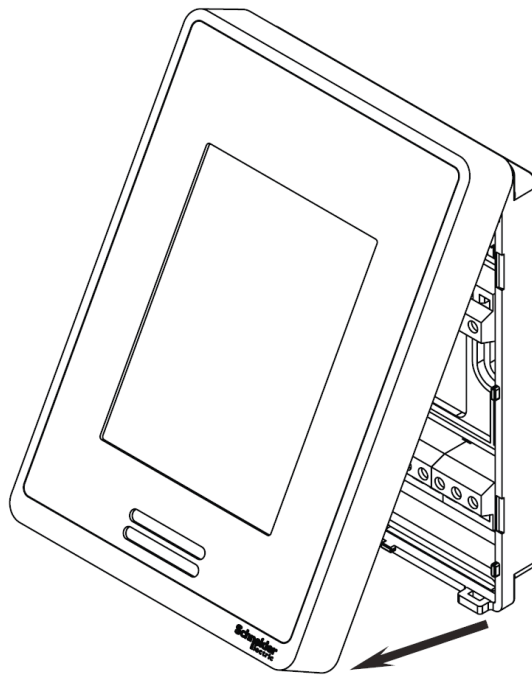

Figure 1
2. Open unit by pulling on bottom side of Room Controller cover (Figure 1).